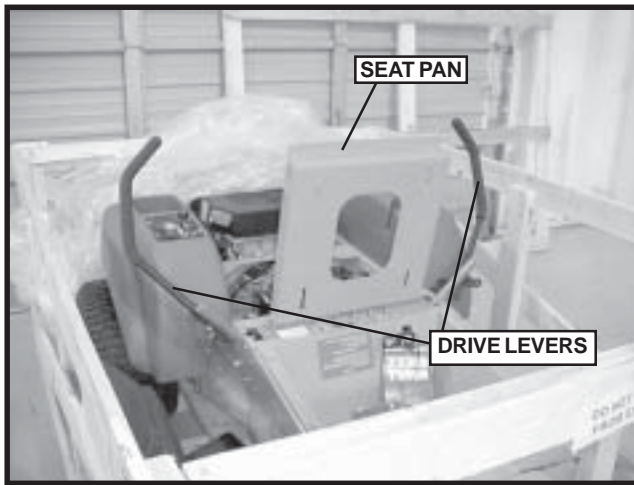

FIGURE 3
6. Flip the seat pan up so you have access to the cables and dampeners. See Figure 3.